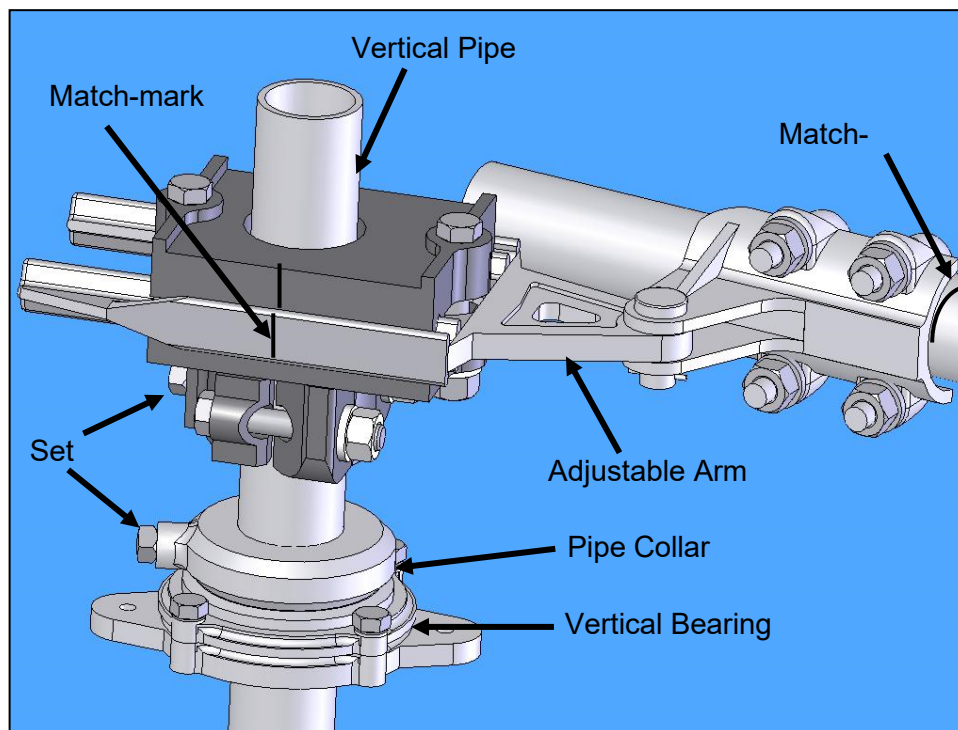
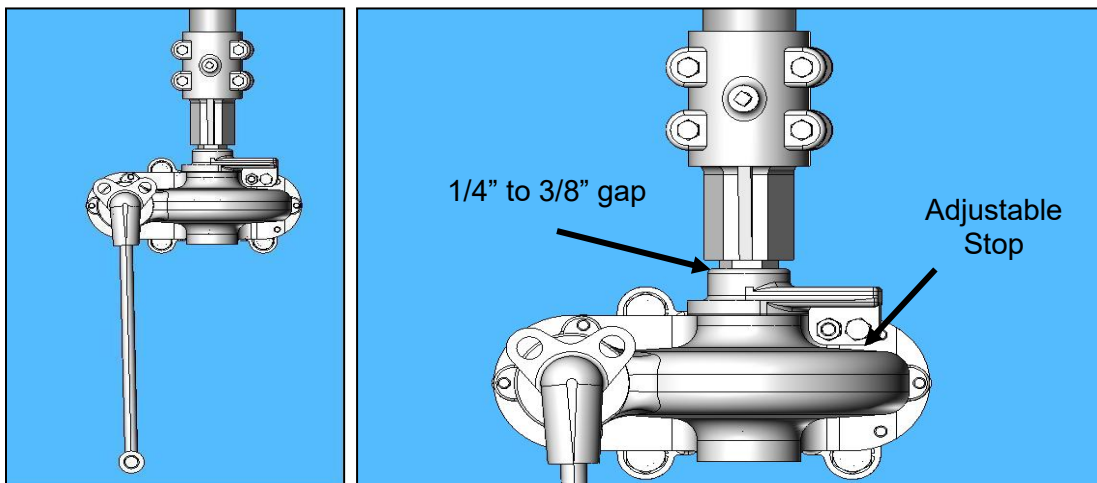

Figure 18: Typical Operating Arrangement
Figure 19: Type HOGO (High Output Geared Operator) Front View
3. Refer to the Operating Mechanism drawing, and install all mounting brackets, bearings, bushings, pipe clevises, switch operating device, adjustable arm, reach rod, and other necessary components. Refer to **Figure 18**.
⚠ CAUTION The pipe collar (above the vertical bearing) must support the entire weight of the vertical operating pipe. To prevent unnecessary component damage, **Do not allow the pipe to rest on the switch operating device**. Refer to **Figure 18**.
5. After mounting all op-mech components, match-mark all clevis connections, the adjustable arm, and the switch operating devices' coupling, so that any slippage occurring during trial operations can be readily detected. Refer to **Figure 18**.
2.1.2. The weight of the vertical operating pipe should be supported by pipe collar (**Figure 18**) by maintaining the 1/4 - 3/8" gap (**Figure 19**).
2.1.3. When the switch is properly adjusted the operator handle should hang freely in both the open and closed positions to permit the use of a customer supplied padlock. Refer to **Figure 19**.
4.3. If the switch **does not** fully open before the operator reaches the fully open position, the adjustable arm radius is too short. Close the switch, match-mark the adjustable arm and the pipe clevis, and loosen the bolts on the adjustable arm and pipe clevis. **Lengthen the adjustable radius arm approximately 1/4". Allow the pipe clevis to reposition itself the same 1/4".** Refer to **Figure 19**. Test operation and readjust as necessary.
4.4. If the switch is fully open before the operator reaches the fully open position, the adjustable arm radius is too long. Close the switch, match-mark the adjustable arm and the pipe clevis, and loosen the bolts on the adjustable arm and pipe clevis. **Shorten the adjustable radius arm approximately 1/4". Allow the pipe clevis to reposition itself the same 1/4".** Refer to **Figure 19**. Test operation and readjust as necessary.